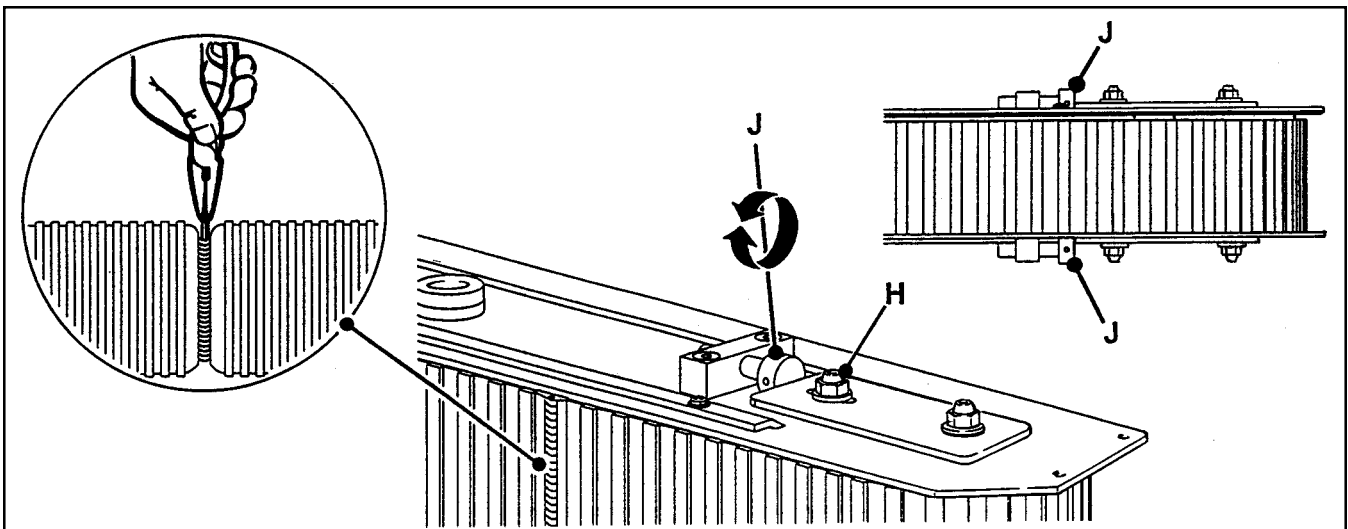

Figure 4-3 – Box Drive Assembly, Infeed End
10. Loosen, but do not remove lock nuts (H) on both the upper and lower belt tension assemblies. See Figure 4-3.
11. Turn belt adjustment screws (J) clockwise on both the upper and lower tension assemblies until belt is loose. See Figure 4-3.
14. To set drive belt tension, turn adjustment screws (J) equally on both the upper and lower tension assemblies. Turn the screws counterclockwise to increase tension or clockwise to decrease tension. See Figure 4-3.